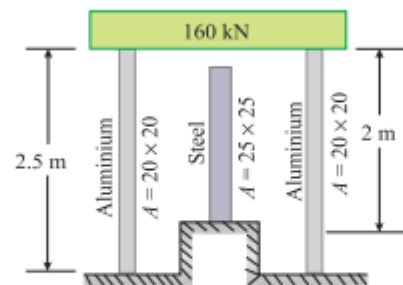

Fig. 4.24
3. A uniform rigid block weighing 160 kN is to be supported on three bars as shown in Fig. 4.24.